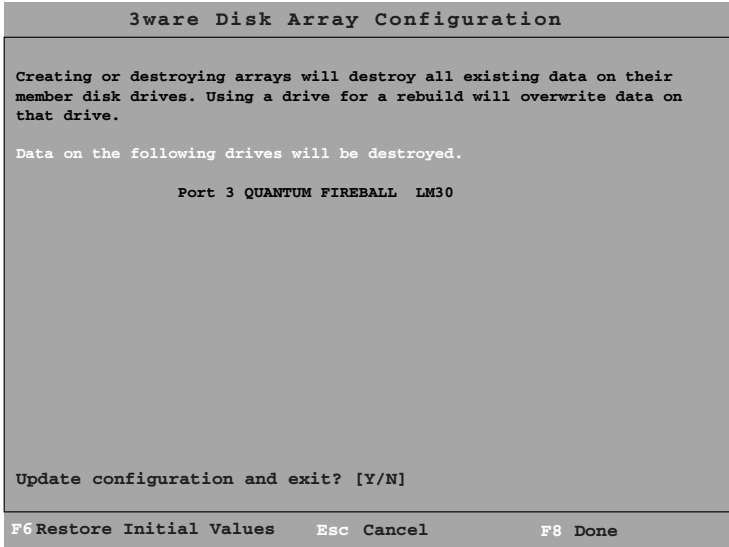

Figure 20. Rebuild Confirmation Display
- 8 Press **F8** to rebuild. The rebuild confirmation screen will be displayed (see Figure 20).